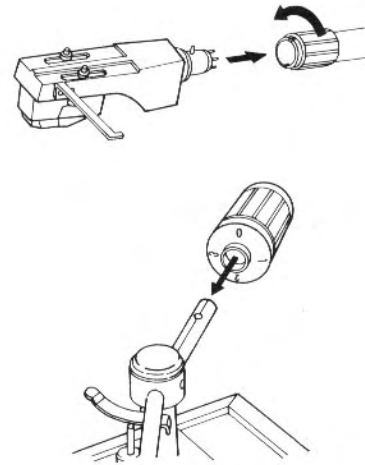

Figure 5
1. Plug the Head Shell (with its pre-equipped cartridge) into the front end of the Tone Arm, and secure it by turning the Lock clockwise (wipe clean all dust from the connecting points of the Head Shell and leave the Stylus Cover on when handling). See Figure 5.
2. Insert the Circular Counter-Balance Weight about 3/4" into the end portion of the Tone Arm. The weight moves forward to clockwise revolutions and backward to counter-clockwise revolutions. See Figure 5.